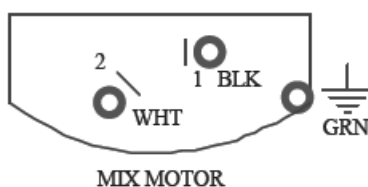

Figure 14
2. Disconnect the black, white and green wires from Mixer Motor. *See Figure 14.* Unscrew strain relief and pull the wires out so they are no longer connected to the Mixer Motor.
12. Thread the power cable through the strain relief, attach the black, white and green wires to the motor, install and secure the inspection plate. *See Figure 14.*